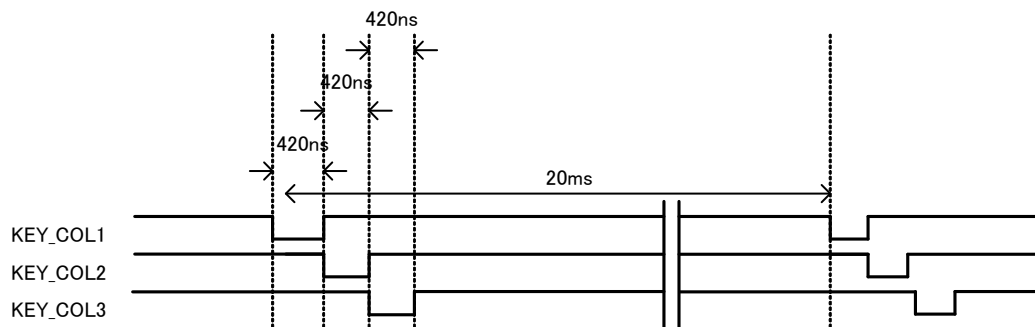

Figure VII.2.1 KEY SCAN Waveform
- (1) KEY_COL1 to 3 output waveforms at timing as shown in Figure VII.2.1.
- (2) By pressing KEY switch, KEY_ROW 1 to 4 are set to L at timing when KEY_COL 1 to 3 are L.
- (3) When detecting L input from KEY_ROW 1 to 4 three times, the master judges that KEY has been pressed. Then, the master starts the KEY operation.
- (3) When detecting L input from KEY_ROW 1 to 4 three times, the master judges that KEY has been pressed. Then, the master starts judging status of held KEY.
- (4) When pressed KEY's decision (L input from KEY_ROW 1 to 4 three times) is detected consecutive 15 times, the master judges that KEY Mode is Hold Mode.
- (5) When KEY release is detected in judging status of hold KEY, the master judges that KEY Mode is Single Mode. Then, the master starts the KEY operation.
- (6) When Hold Mode is detected, the master starts the KEY operation in Hold Mode. When KEY release is detected in Hold Mode, the master finish the KEY operation.